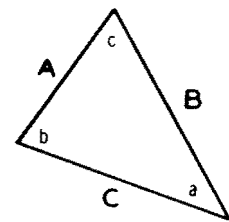

Figure A1
1. A triangle is a three-sided geometric figure. See Figure A1. The three sides are labeled A, B and C and form three angles which we call a, b and c. The sum of the angles in any triangle is 180° or $a + b + c = 180^\circ$.